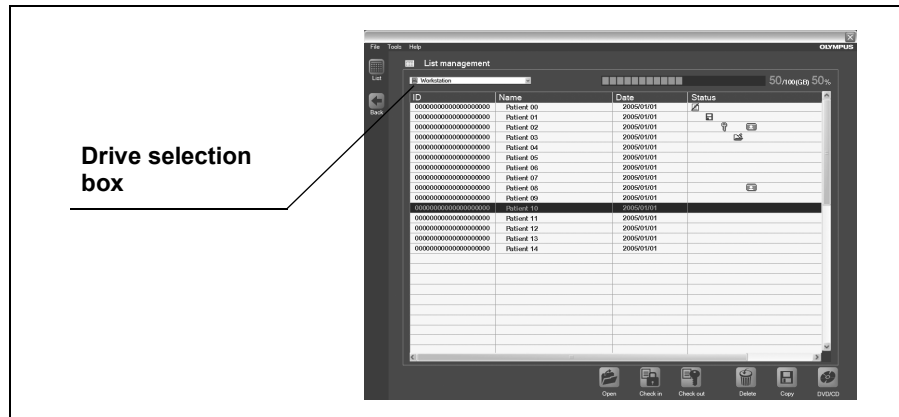

Figure 6.5
2. On the examination list screen, use the drive selection box to select the drive on which the examination data is stored (see Figure 6.5).